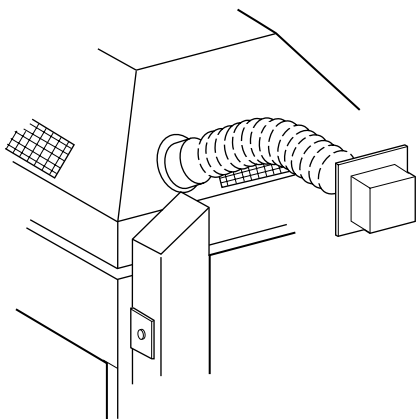

Figure 27
Step 5. Remove one of the knockouts from either the left or right side of the fireplace transition. Attach the 4" (102 mm) collar from the FOAK-4 chimney air kit to the transition, using the four (4) No. 8 x 1½" screws provided (*Figure 27*).